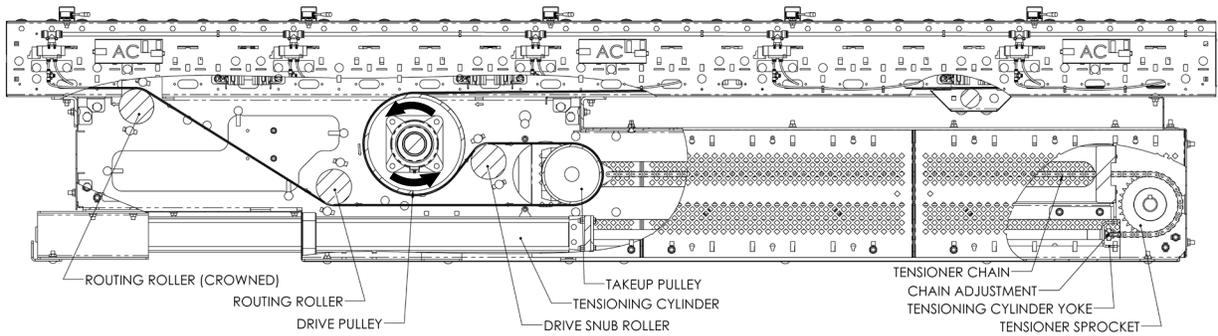

Figure 15: Pneumatic Takeup Drive Belt Routing
6. Using the routing shown in Figure 15: Pneumatic Takeup Drive Belt Routing, thread the belt through the drive. The drive pulley will not turn easily with most gearmotor selections, so the belt will need to be “pushed” rather than “pulled” past the pulley by providing slack just before the pulley.